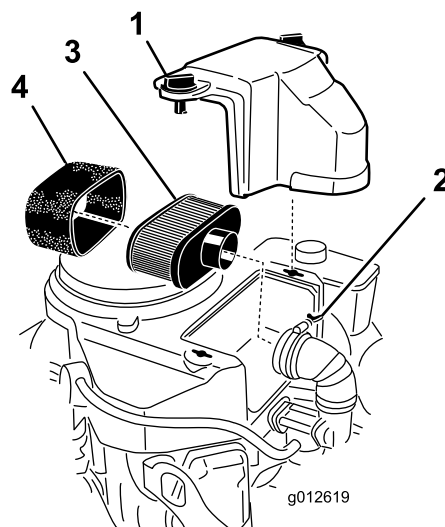

Figure 28
3. Clean around the air cleaner to prevent dirt from getting into the engine and causing damage (Figure 28).
4. Loosen the cover knobs and remove the air-cleaner cover (Figure 28).
5. Loosen the hose clamp and remove the air-cleaner assembly (Figure 28).
6. Carefully pull the foam element off the paper element (Figure 28).
1. Clean the paper element by tapping it gently to remove dust. If it is very dirty, replace the paper element (Figure 28).
1. Carefully slide the foam element onto the paper element (Figure 28).
2. Place the air-cleaner assembly onto the air-cleaner base or hose and secure it (Figure 28).
3. Place the air-cleaner cover into position and tighten the cover knobs (Figure 28).